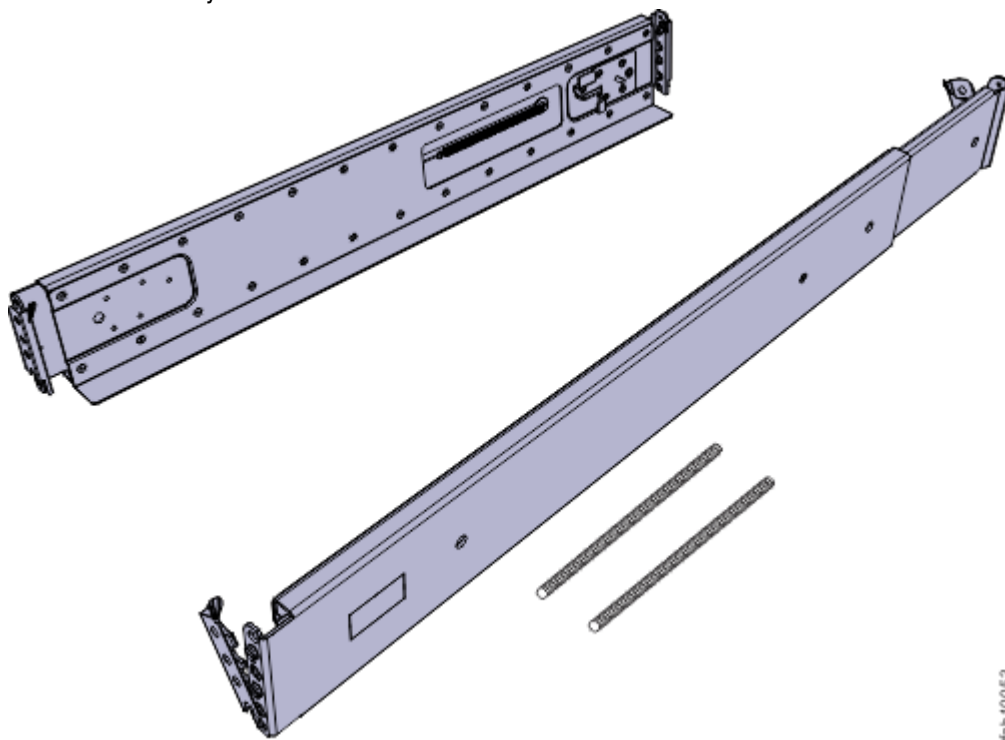

Figure 35. Expansion enclosure support rails
1. Locate the expansion enclosure rails (Figure 35 on page 31).